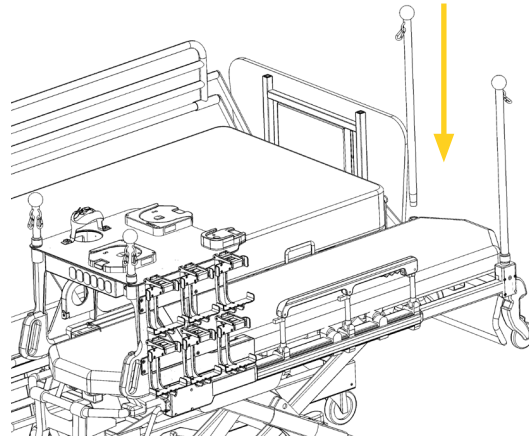

Figure 7: Installing the push bar at patient head end
13. Reinstall the push bar by inserting its tapered end in the clamp block socket (Figure 7).